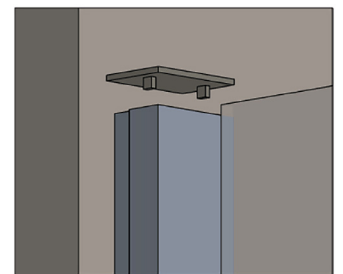
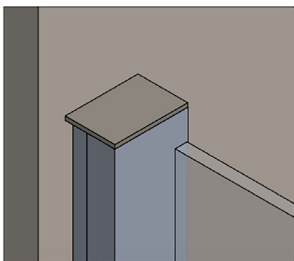

FIGURE 14A
FIGURE 14B
The Adjustable Post Cap (J) covers the exposed top of the Wall Jamb (A) and Hinge Jamb (B). Set the cap in place BACKWARDS (only to mark it for cutting) with the legs going in Hinge Jamb (B) (See Figure 14A) and mark for cutting (See Figure 14B).